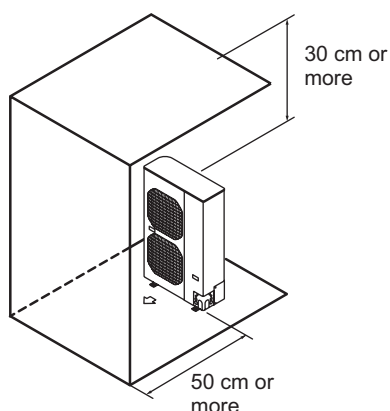

Fig. 1-12
(3) Obstructions on the front side and above the unit (Left side, right side and rear side are opened). (Fig. 1-12)